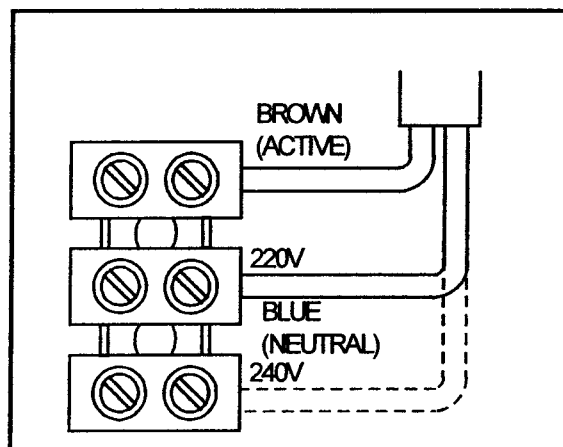

Figure 4 – Mains Supply Lead Termination
- Refer to Figure 4 for Input Supply lead termination.